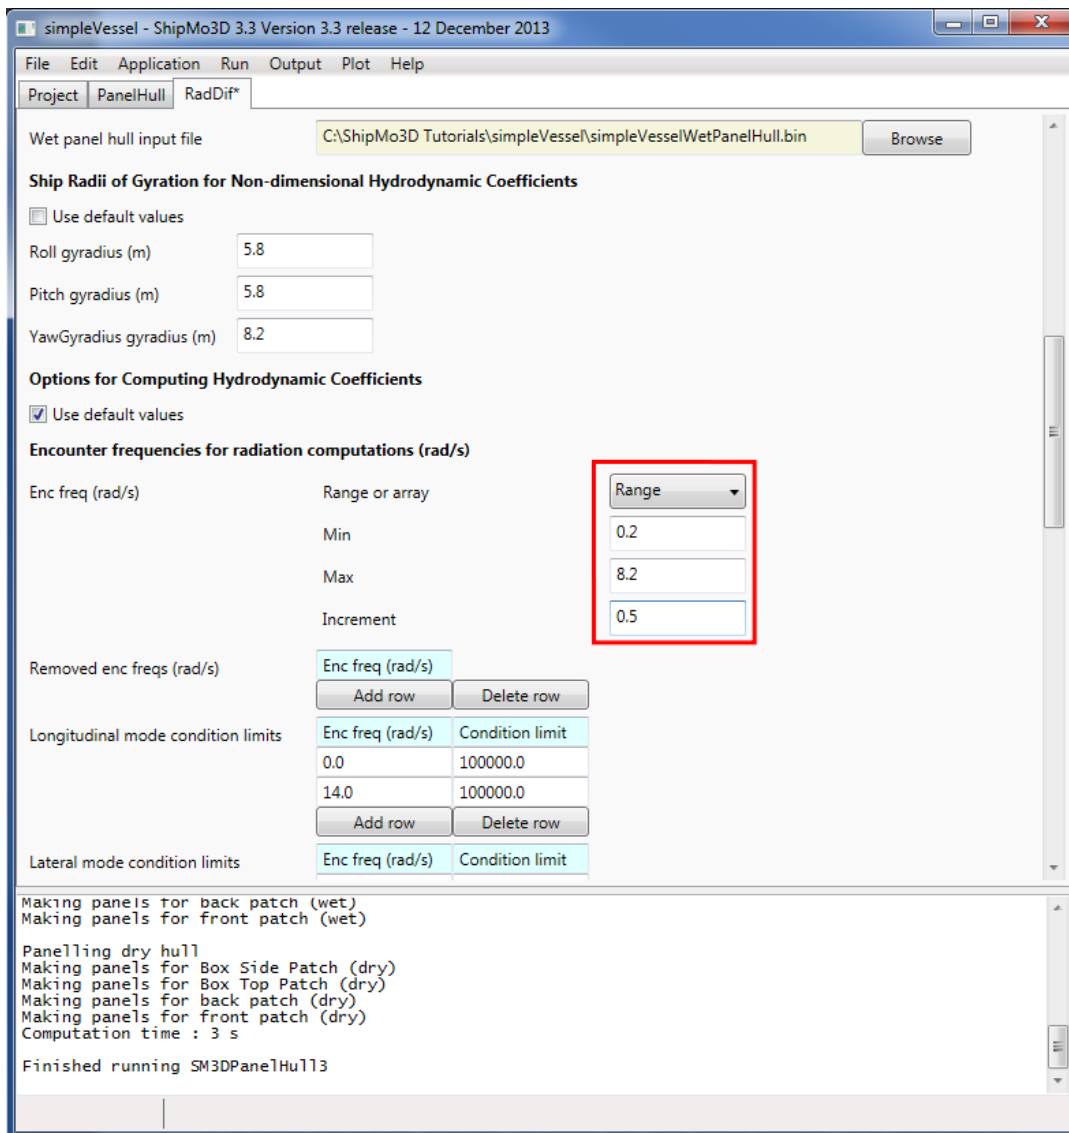

Figure 33: The RadDif application's pane highlighting the radiation computation's encounter frequency range.
- ★ Under the "Encounter frequencies for radiation computations (rad/s)" section of the RadDif pane, set the Min, Max, and increment Encounter frequencies as 0.2rad/s, 8.2rad/s and 0.5rad/s. fill out the parameters as shown in Figure 33.